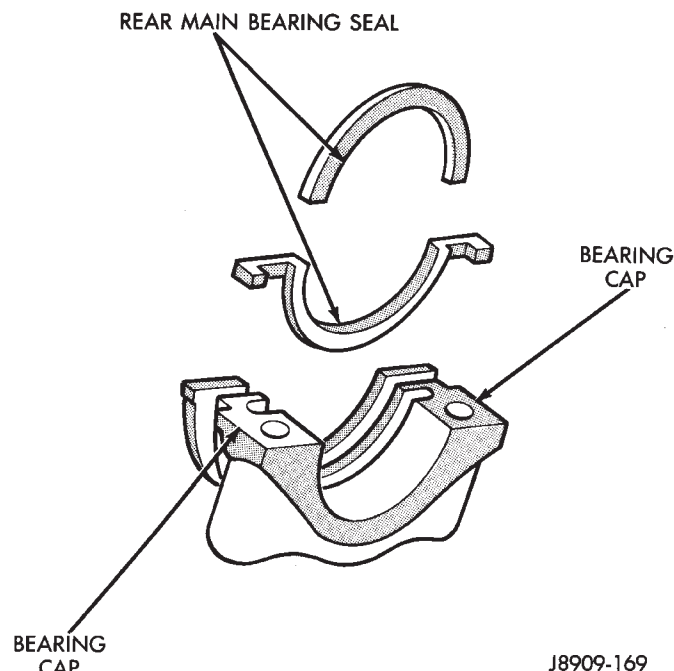

Fig. 7 Rear Main Bearing Oil Seal
- (1) Wipe the seal surface area of the crankshaft until it is clean.
- (2) Apply a thin coat of engine oil.
- (3) Coat the lip of the seal with engine oil.
- (4) Carefully position the upper seal into the groove in the cylinder block. The lip of the seal faces toward the front of the engine.
- (5) Place the lower half of the seal into bearing cap No.7 (Fig. 7).
- (6) Coat the outer curved surface of the lower seal with soap and the lip of the seal with engine oil (Fig. 7).